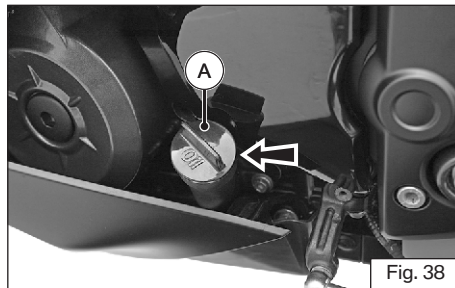
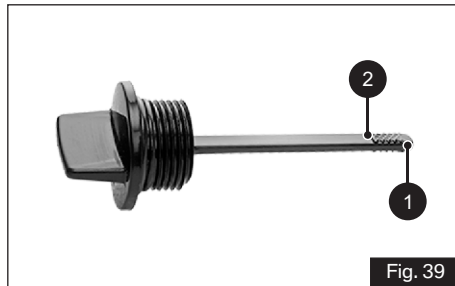

Fig. 38
Fig. 39
To check the engine oil level, a gauge oil level (dip stick) (A) given on the left side of the crankcase (ref. Fig. 38).
- ◆ After 2 to 3 minutes, remove the gauge oil level (A) and wipe it cleanly.
- ◆ The level should be between minimum (1) and maximum level (2) mark on the gauge (ref. Fig. 39).
- ◆ If the level is below the minimum level (1), slowly add recommended engine oil till the level reaches to maximum level (2).